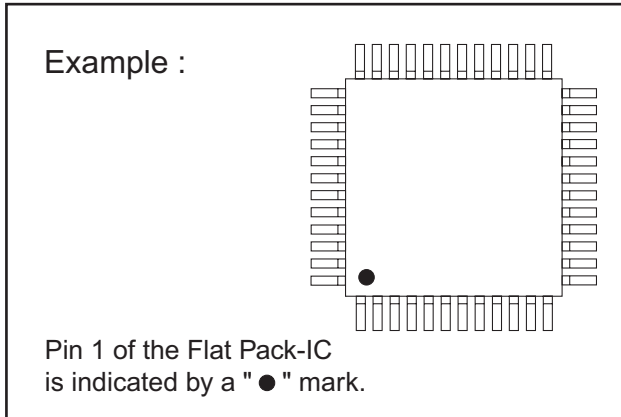
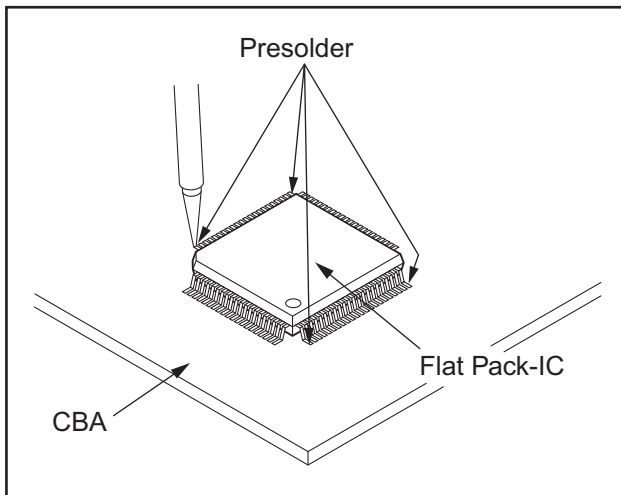

Fig.2-7
Fig.2-8
- (1) Using desoldering braid, remove the solder from the foil of each pin of the flat pack-IC on the PWB so you can install a replacement flat pack-IC more easily.
- (2) The ● mark on the flat pack-IC indicates pin 1. (See Fig.2-7.) Be sure this mark matches the pin 1 on the PCB when positioning for installation. Then presolder the four corners of the flat pack-IC. (See Fig.2-8.)
- (3) Solder all pins of the flat pack-IC. Be sure that none of the pins have solder bridges.